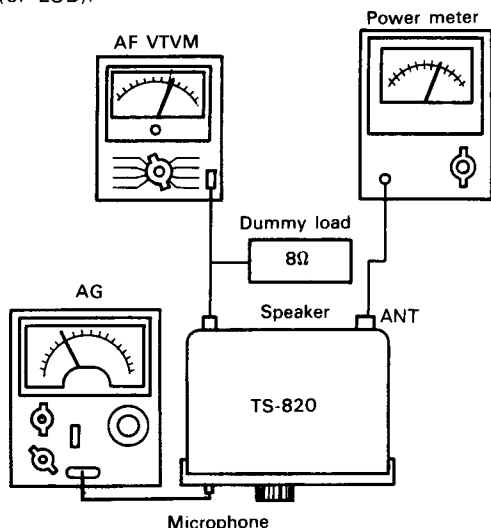

Fig. 38 Adjustment of monitor level
- 1) If Fig. 38, make adjustment until full power is obtained at 14.175 MHz, CW, and set the MODE switch to SSB ϕ (or LSB).